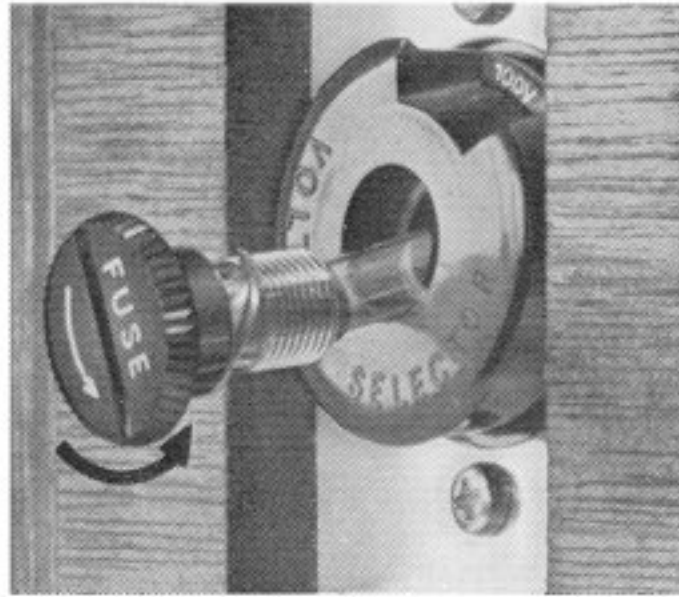

Fig. 4
- (1) Remove the FUSE POST ③⑧ as shown in Fig. 4. Remove the PLUG of VOLTAGE SELECTOR ③⑦ and reinsert so that the desired voltage appears.